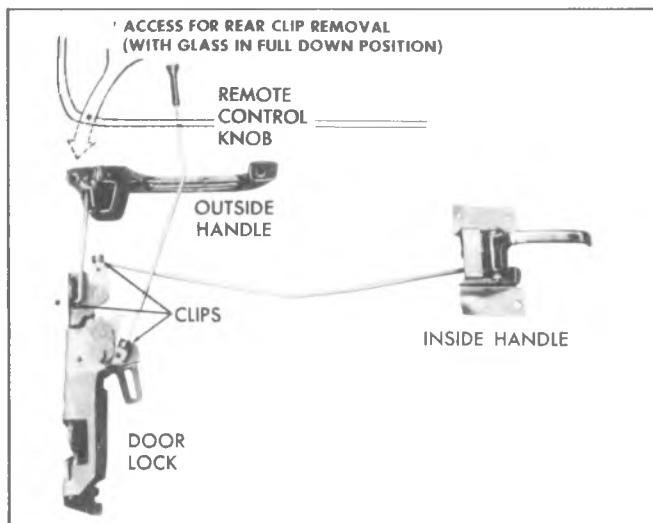

Fig. 2D-35--Lock, Handles and Rods
6. Remove clip from outside handle rod-to-lock. This is best accomplished by inserting a long screwdriver through the daylight opening, as shown in figure 2D-35.
Door Outside Handle--Fig. 2D-36